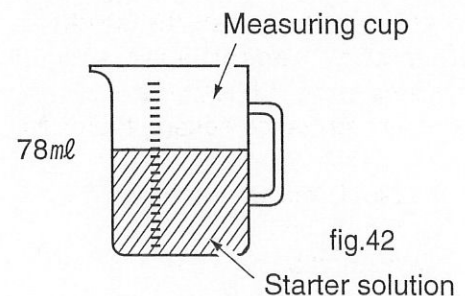

fig.42
- ⑦ Fill the measuring cup exactly with 78ml of starter solution. (fig.42)